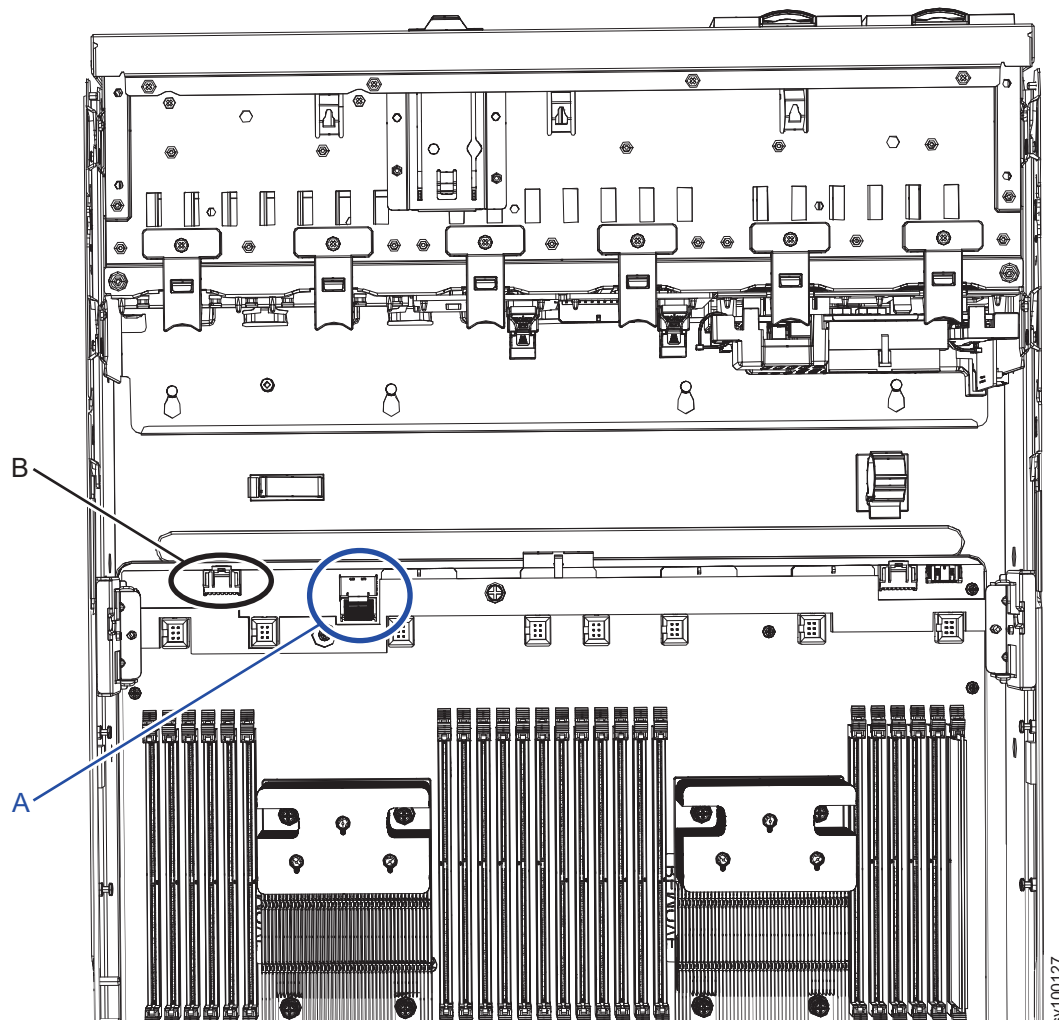

Figure 171. Cable connectors on the 2145-SV1 main board for the operator-information panel cables
3. Connect each cable to the appropriate connector on the main board, as shown in Figure 171 on page 206.